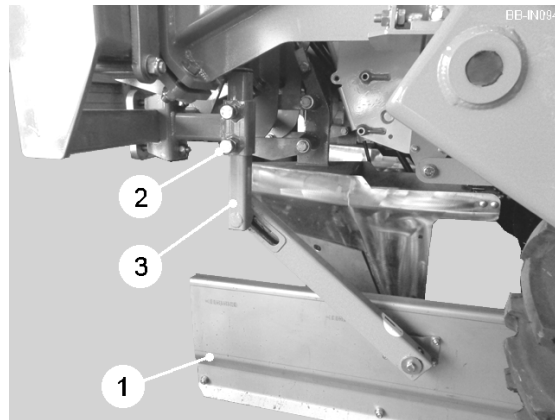

Fig. 12
The soil retention panels (item 1, fig. 12) prevent soil from flowing into the wheelings from the openers. Vertical adjustment is provided to allow the panels to be raised / lowered to match wheel height. To adjust the height, loosen the screws (item 2, fig. 12) and raise / lower the leg (item 3, fig. 12) to the required position. The front of the panels should be set slightly wider than the rear, causing the soil to converge as it approaches the moulding board.